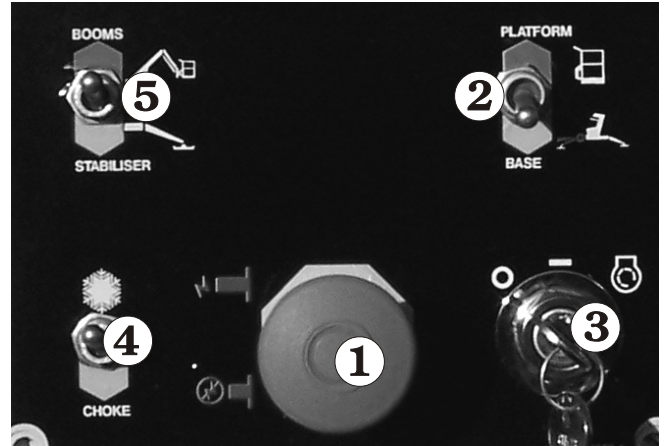

Figure 10.17 - Ground Control Box Starting
1. Set the **Emergency Stop** switch ❶ to ON (see Figure 10.17).
2. Set the **Platform/Ground Selector** switch ❷ to GROUND (see Figure 10.17).
3. Insert the key ❸ (see Figure 10.17) into the **Master Key Switch** and turn the key on.
4. If the engine is at ambient temperature (cold), hold the **Choke / Cold Start Switch** ❹ (see Figure 10.17) up throughout the next step.
5. Turn the key to **Start** and hold it there until the engine starts or for a maximum time of 6 seconds. When the engine starts release the key ❸ and the choke switch ❹, if you used it (see Figure 10.17).